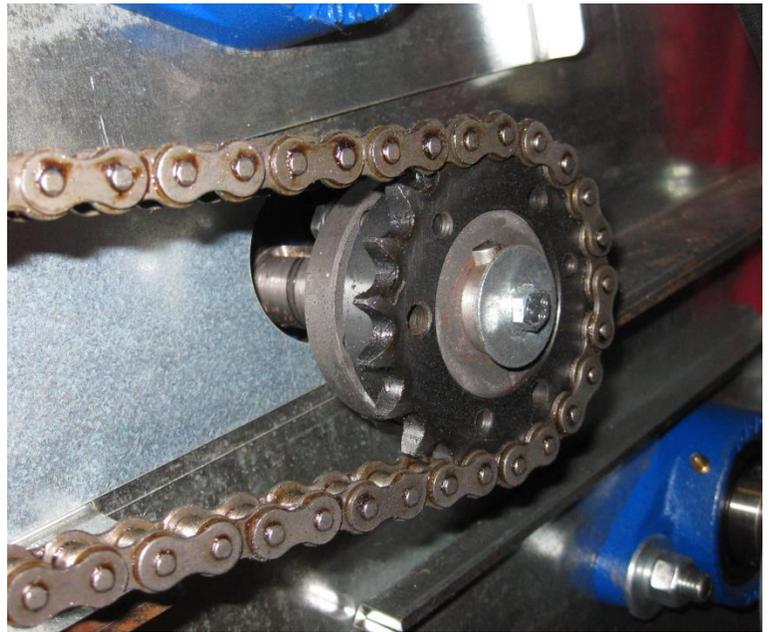

Figure 6
8. Utilizing existing taper-lock bushing, install chain sprocket onto conveyor shaft. **DO NOT** fully tighten taper-lock. **See Figure 6.** **Note:** The sprocket will be installed first and then the bushing. The installation orientation of the new components will mirror that of the superseded components.